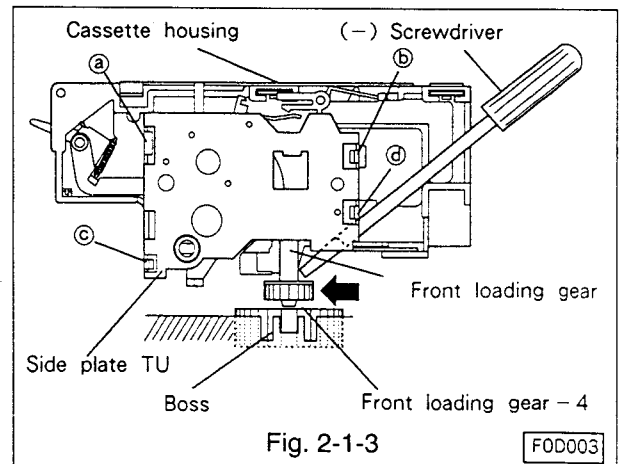

Fig. 2-1-3
- In step A above, if the front loading gear of the cassette housing does NOT engage the boss on the main plate, carefully push the gear toward the front of the VCR using a small-diameter screwdriver, as illustrated in Fig. 2-1-3. If the gear still will not engage, rotate the Front Loading Gear a few degrees from below the deck until the gear engages the boss correctly.
2-2-1 Removal(Refer to Fig. 2-1-3~2-2.)
- Unfasten four snaps [(a),(b),(c) and (d)] as shown in Fig. 2-1-3, and remove the side plate TU.
2-2-2 Installation(Refer to Fig. 2-1-3~2-2.)
- Install the side plate TU to the cassette housing, and secure it with four snaps [(a),(b),(c) and (d)] as shown in Fig. 2-1-3.